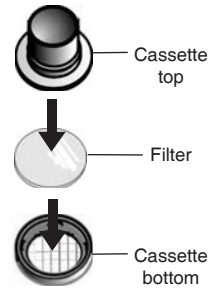

Figure 4.
Filter Cassette: Opening, Installing Filter, and Closing (Figure 4)
- a. **Plastic cassette:** Use gentle pressure to separate the two halves of the plastic cassette (Figure 4).